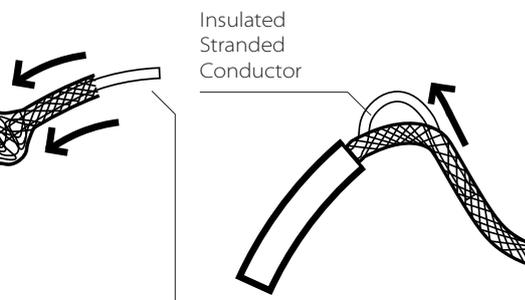

Fig. 3
9. Install two bars (J) to suspended Section 1 and Section 2. The connections are made by connecting the plug (K), sliding bar over wing (L), securing in place with countersunk screws (M) (Figure 3).
4. Bend the cord to create an opening through the bunched-up portion of outer braided conductor, then pull out the inner stranded conductor (Fig. 3)